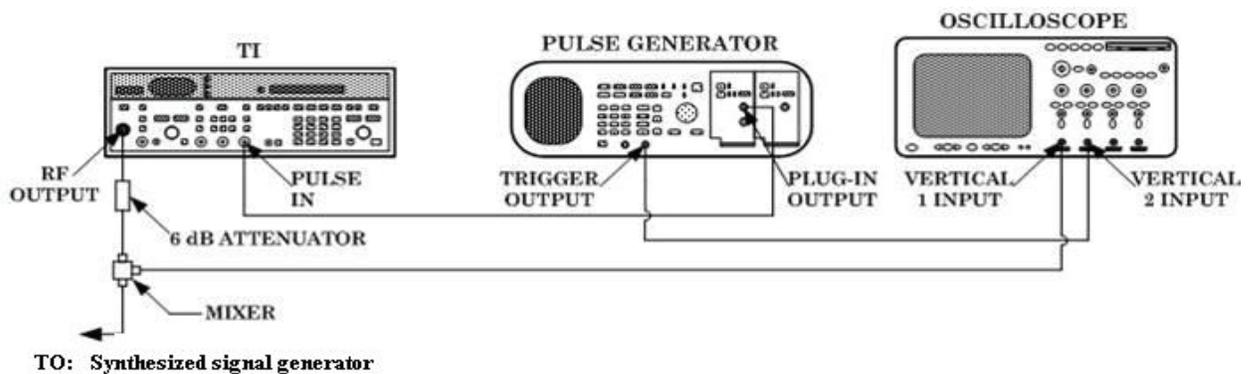
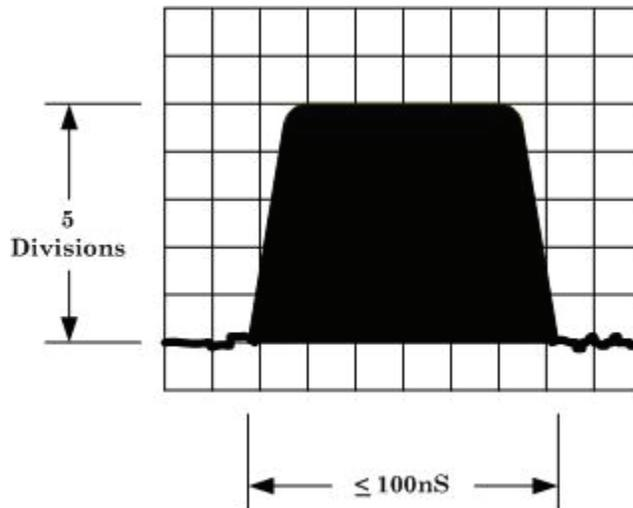

Figure 7. Pulse modulation hookup.
Figure 8. Pulse modulated display.
(1) Disconnect cable from local oscillator **RF OUTPUT** connector.
(2) Connect equipment as shown in figure 7.
The next several tests require that you adjust the oscilloscope as necessary to obtain a centered 5 division pulse as shown in figure 8.
- (1) Connect equipment as shown in figure 7. Remove TI top cover.
- (2) Press TI keys as listed in (a) through (g) below.
- (3) Set the synthesized signal generator to produce a 2.050 GHz signal at 8 dBm and turn on the **RF OUTPUT.**
- (4) Reset the pulse generator then set to produce a 1 MHz pulse train with a width of 100 ns, **VHI** of 5 and **VLO** of 0, and turn the output on.
- (5) Press oscilloscope controls as listed in (a) through (h) below:
- (6) Adjust oscilloscope as required for centered five division pulse as in figure 8.